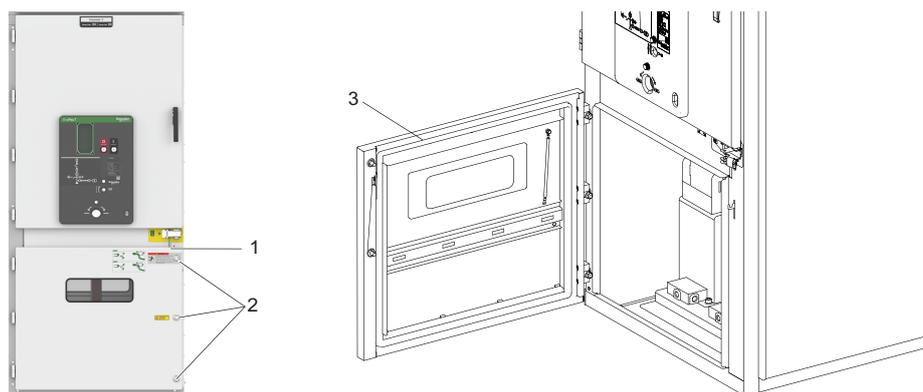

Figure 54
1. Release the securing bolts (2) on the cable compartment (1) with standard double-bit key. Refer to Figure 54.
2. Swing the cable compartment door (3) to open it.
After completing assembly work, Close the cable compartment door (1) and lock the securing bolts (2) with standard double-bit key. Refer to Figure 54.